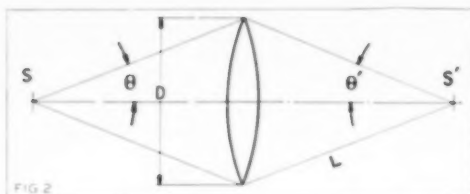
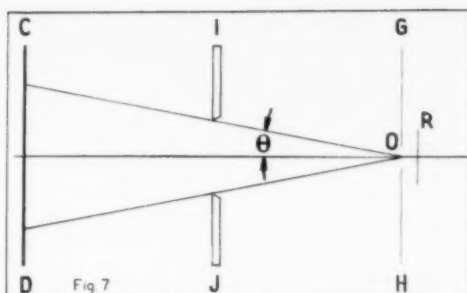

FIG. 2
Fig. 7
McRae,⁷ in a paper appearing in the April 1943 issue of the Journal of the Optical Society of America, derives the equation for the illumination of the image of a plane source from the geometry of Figure 2. To quote McRae:
In the extended source method of lens calibration as developed by Gardner and Sachtleben and patented by Sachtleben, the source of Figure 2 is extended to a large plane which becomes the source both for the lens and for the comparison opening. In Figure 7 we see an extended, uniformly bright source (CD) and a circular aperture in a barrier (IJ), which admits light to illuminate the plane (GH). In (GH) is a small circular hole (O) through which light falls on a receiver (R). From the laws of illumination: If the area of the hole (O) is A and the brightness of the source (CD) is B, the luminous flux is given by the equation
This angle θ is the same one which showed up in Figure 2 and, when we were discussing Figure 2, we showed that the f/stop was equal to $\frac{1}{2 \sin \theta}$. Suppose now that we set up the source and aperture arrangement of Figure 7 making the diameter of the opening in the barrier (IJ) such that it subtends the half angle θ corresponding to a desired T stop and measure the illumination falling through the opening (O). If we now remove barrier (IJ), replace it with a lens to be calibrated and stop down the iris diaphragm until the illumination through the opening (O) is identical with that when the opening in the barrier (IJ) was used, we will have set the lens in question to the T stop corresponding to the angle subtended by the opening in the barrier (IJ) and will have calibrated the lens for the corresponding T stop.